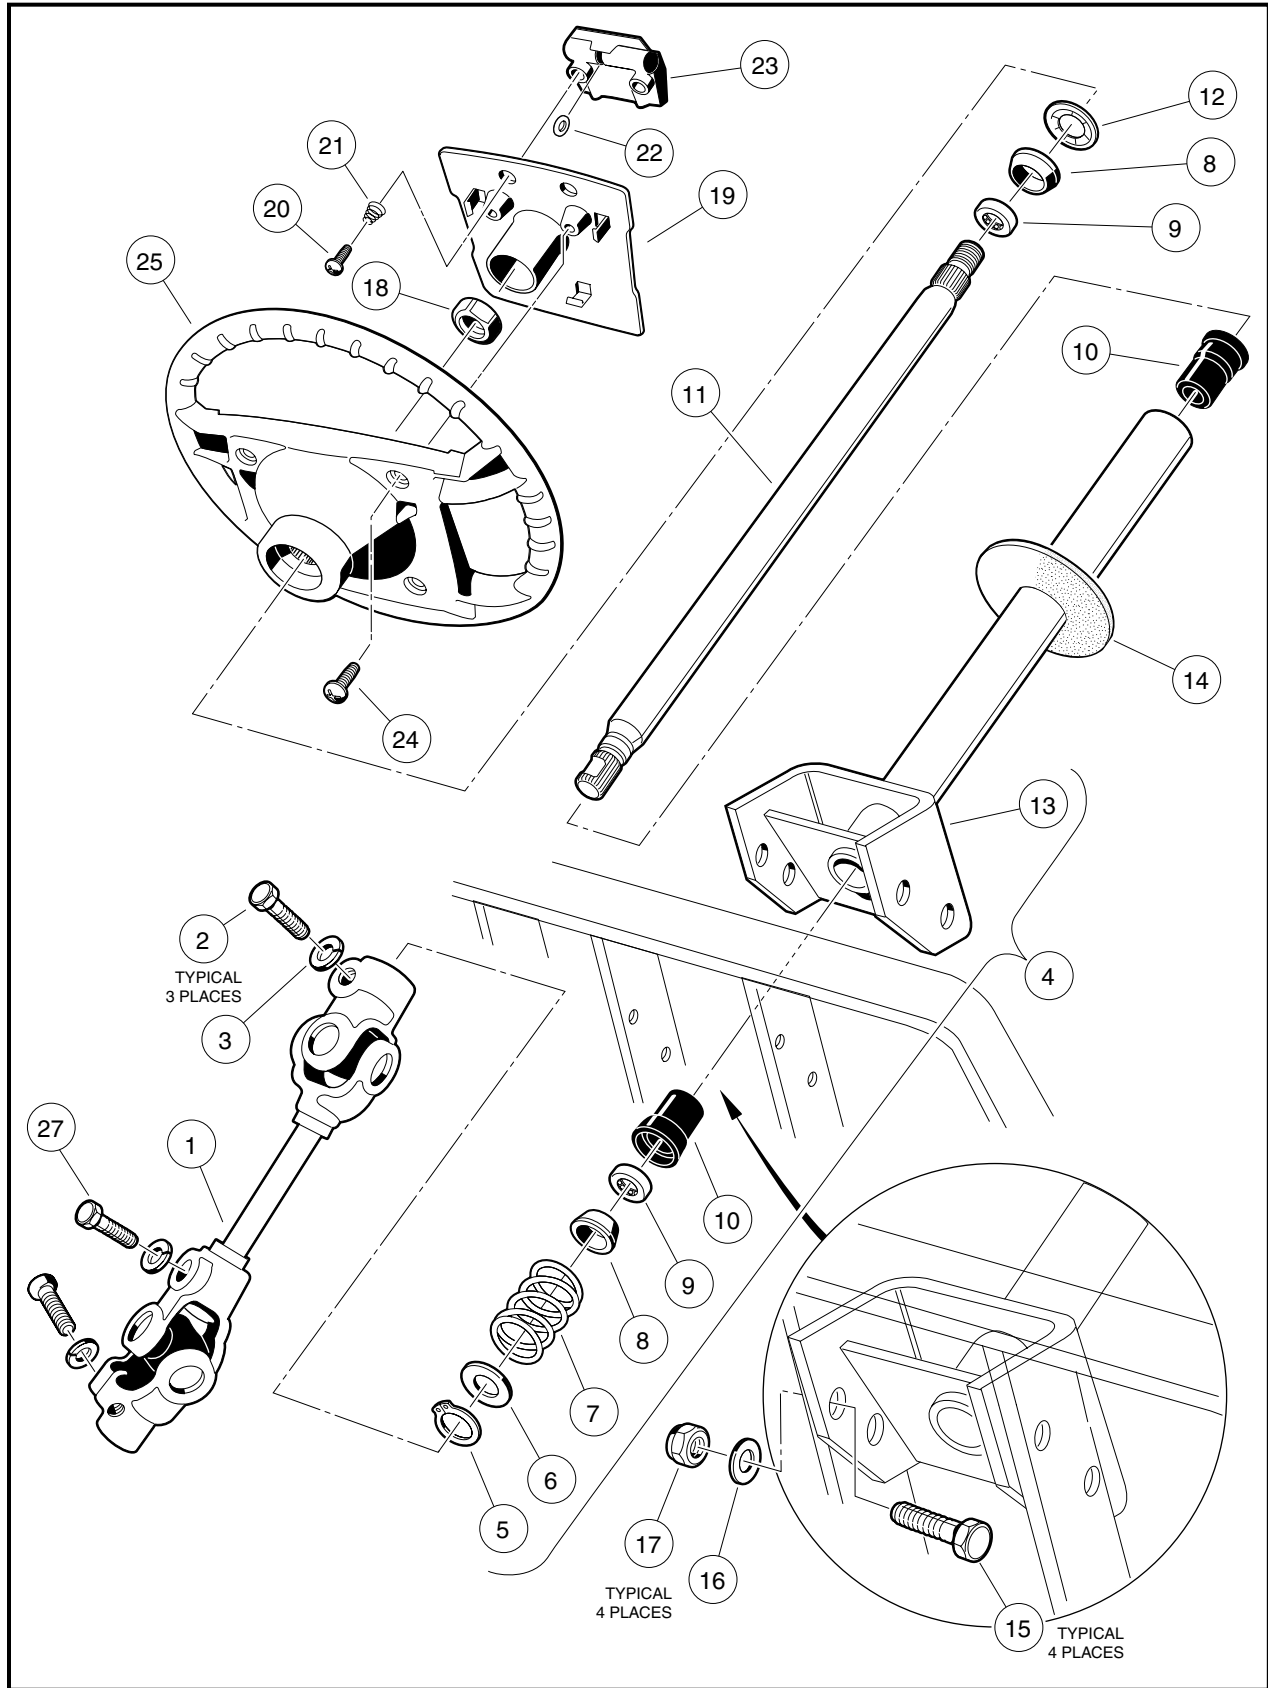
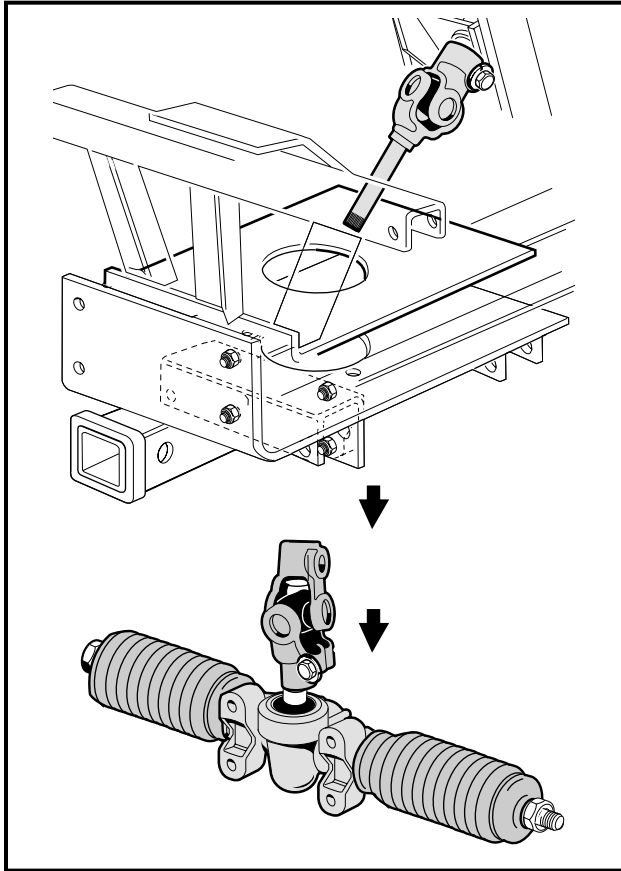

Figure 7-1 Steering Column
Figure 7-8 Remove Rack and Pinion
5. Remove the two mounting screws (24) and plate (19) (**Figure 7-1, Page 7-3**).
6. Match mark the steering wheel (25) and steering column shaft (11) so that reattachment of the steering wheel will be in the exact same position.
7. Loosen the steering wheel nut (18) and back it off approximately 1/4 inch (6 mm). Do not remove the nut.
- 8.6. Remove the steering wheel nut (18) and the steering wheel from the steering column (14) (**Figure 7-1, Page 7-3**).
1. Install the steering wheel (25) on the splines of the steering shaft (11). Be sure to align the match marks placed on the wheel and steering column shaft in step 6 above (**Figure 7-1, Page 7-3**).
2. Install the steering wheel nut (18) and tighten to 13 ft-lb (17.6 N·m).
3. Install the steering wheel plate (19) and plate mounting screws (24) (**Figure 7-1, Page 7-3**). Tighten screws to 16 in-lb (1.8 N·m).
9. Remove the nuts (17), bolts (15), and washers (16) from the steering column mount (13) (**Figure 7-1, Page 7-3**).
1. While supporting steering column (13) on a workbench, remove snap ring (5) from shaft (**Figure 7-1, Page 7-3**).
2. Remove the washer (6), spring (7), and wedge (8) (**Figure 7-1, Page 7-3**).
3. Turn the steering column over and slide the shaft out of the tube to expose the retaining ring (12). Use pliers to twist the retaining ring (12) until it breaks off, then remove the wedge (8).
4. Remove the shaft (11) from the bottom of the tube (13).
5. Use steering shaft (11) to push bearing seat (10) out from the opposite end of the steering tube (13).
6. Insert a flat blade screwdriver between the bottom of the outer race of the bearing (9) and the bottom lip of the bearing seat (10) and remove the bearing (9).
4. Insert the shaft (11) from the bottom of the steering tube (13) (**Figure 7-1, Page 7-3**).
1. Install boot (14) (if previously removed) (**Figure 7-1, Page 7-3**).
3. Position the steering column assembly in the vehicle while inserting the steering column shaft into the upper steering universal joint (1). The flat portion of the steering shaft spline (11) must be aligned with the bolt hole in the steering universal joint (1) before sliding the spline into place (**Figure 7-1, Page 7-3**).
5. While holding the steering column in place, attach it to the frame using bolts (15), washers (16) and lock nuts (17) (**Figure 7-1, Page 7-3**). Tighten the four bolts, in a crisscross pattern, to 23 ft-lb (31.2 N·m).
6. Tighten the bolt (2) on the upper steering universal joint to 15 ft-lb (20 N·m) (**Figure 7-1, Page 7-3**).
7. Check the other bolts (27) on the lower steering universal joint assembly (1) to ensure that they are properly tightened to 15 ft-lb (20 N·m) (**Figure 7-1, Page 7-3**).
6. Remove the bolt (27) and lock washer (**Figure 7-1, Page 7-3**) from the universal joint, then remove the rack and pinion assembly and universal joint from the vehicle (**Figure 7-8, Page 7-9**).